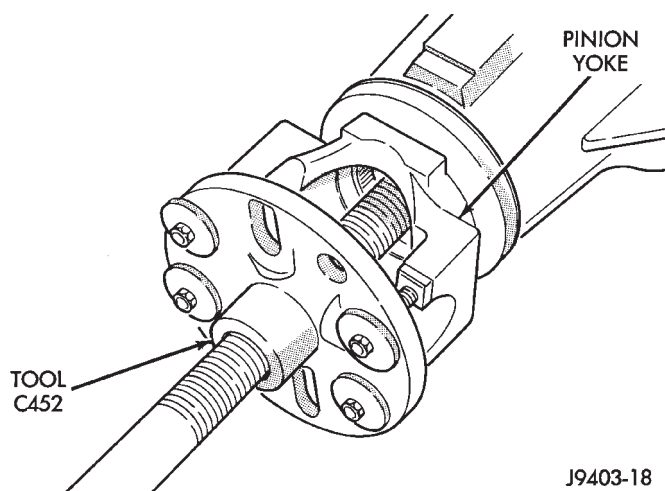

Fig. 16 Yoke Removal
(9) Remove the yoke with Remover C-452 (Fig. 16).